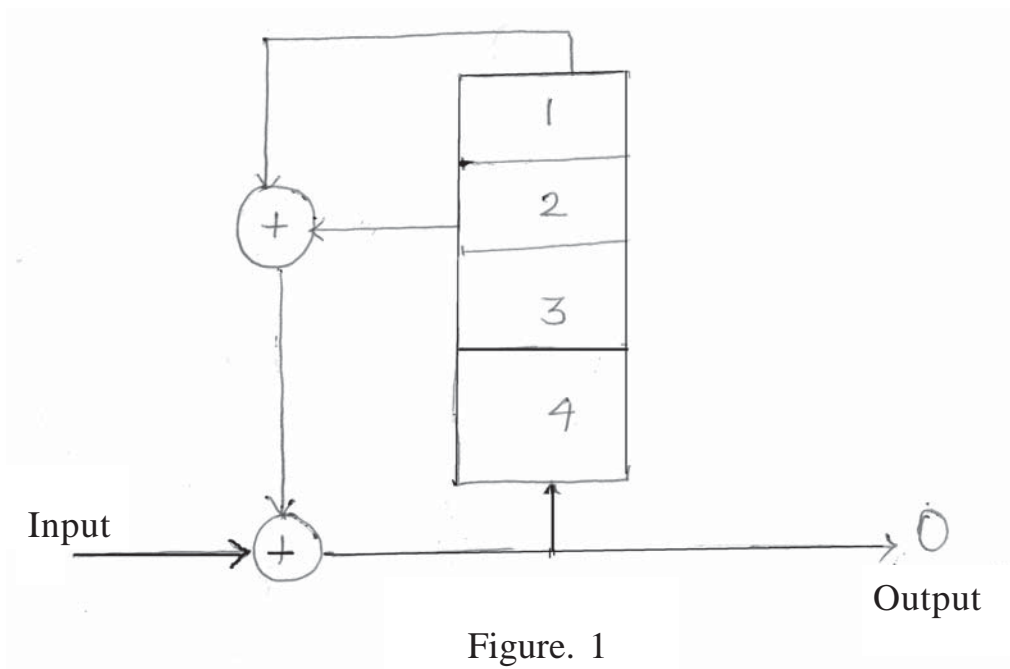

Figure. 1
4. a) Consider a sequence 10100001000000010 is applied to the scrambler shown in Figure 1. Determine the output sequence 'O'. Design the corresponding descrambler and verify whether its output matches with the given sequence. **10**